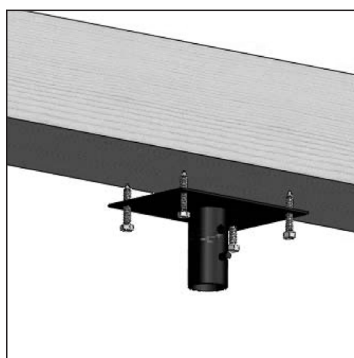

Figure 3:
1. Attach Ceiling Mounting Kit to 2x4" stud that is able to support 50 lbs continuously using M6x40 mm screw. (See Figure 3)